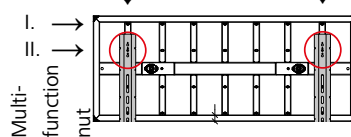
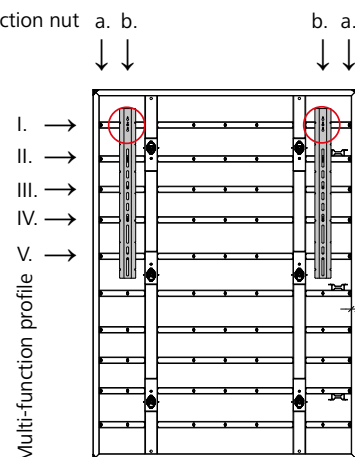

Fig. 11.4
Fig. 11.5
4. Place the linkages on the panel. For the positioning of the linkage for a vertical panel refer to Fig. 11.5 and for a horizontal panel Fig. 11.4 and in both cases to Table 11.6.